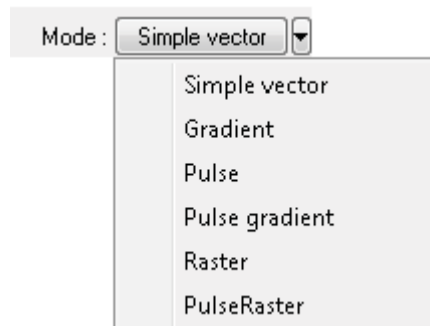

Fig. 13-16. Selecting option of vector lithography
6. In the **Mode** drop-down list, select a desired option of vector lithography (Fig. 13-16). Four options of vector lithography are available: